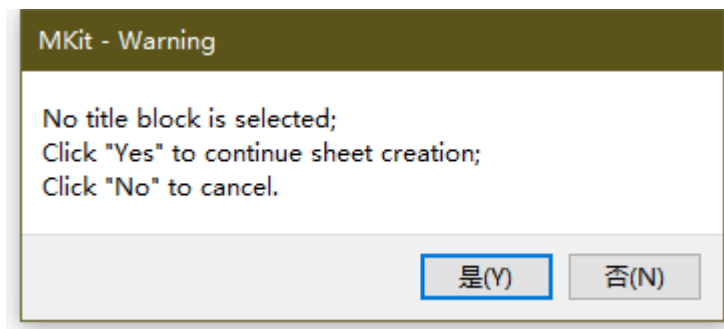

Figure 5.6 Prompt window
1. Click button to invoke function and select desired title block in window shown, if no title block is needed, click cancel button and a window displayed of prompt that asks whether to continue process (Figure 5.6);